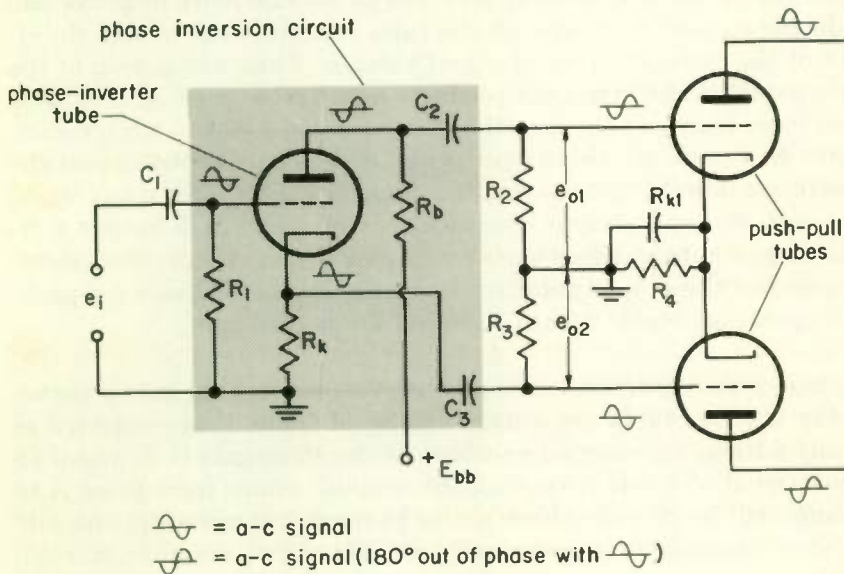

Fig. 19 Split-load phase inverter; supplies balanced input signals to push-pull amplifier.
A commonly used version is the single-tube, *split-load* phase inverter shown in Fig. 19. Notice that this circuit resembles a simple RC -coupled amplifier, except that the cathode bypass capacitor has been omitted and that an output voltage is tapped off the cathode resistor R_k in addition to the normal plate output.
4. In the circuit of Fig. 19, resistors (a) _____ and (b) _____ are critical in value.
5. If the tube in the circuit of Fig. 19 were to deteriorate (with age or by other cause), the effect on the balance of the output voltages (*would*) (*would not*) be affected.